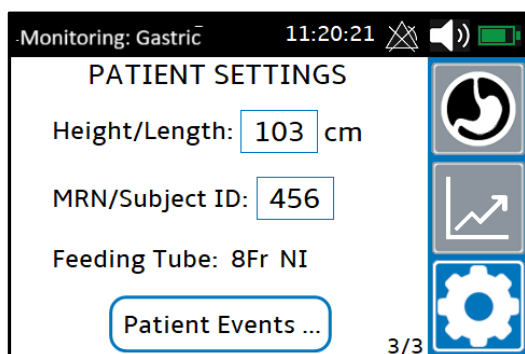

Figure 38: Patient Settings
- Navigating to the Settings screen and pressing the "Patient Events ..." button (Figure 38)